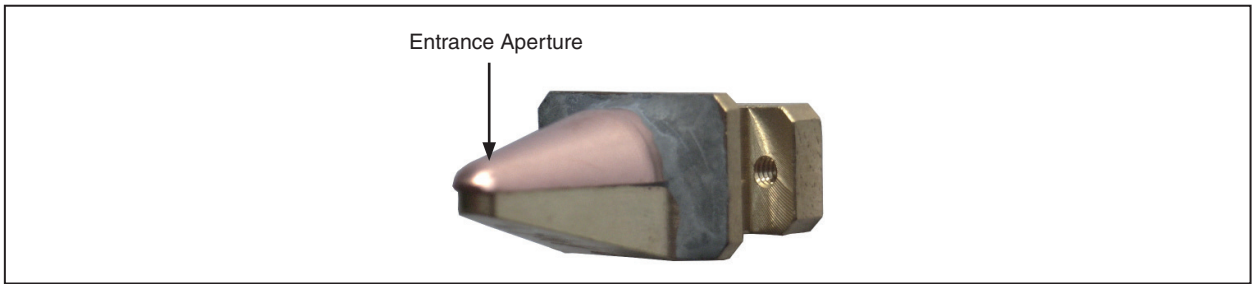

Fig. 7.2: Entrance aperture (pinhole) in the measuring tip.
5. Carefully insert the new measuring tip in the disc (caution, the entrance aperture is located on the arched side of the tip, see Fig. 7.2).